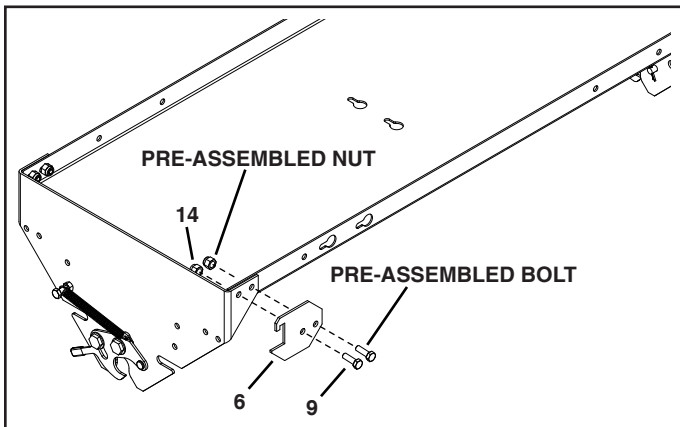

FIGURE 1
1. Rotate the end plates attached to the tray assembly down to a vertical position as shown in figure 1.
2. Remove the bolt and nylock nut from the front right corner of the tray assembly. See figure 1.
3. Attach the lift handle catch (6) to the front holes of the tray assembly using the bolt and nylock nut removed in step 1. See figure 1.
4. Assemble four 5/16 x 3/4" hex bolts (9) and 5/16" nylock nuts (14) to the four empty corners in the tray assembly. See figure 1.